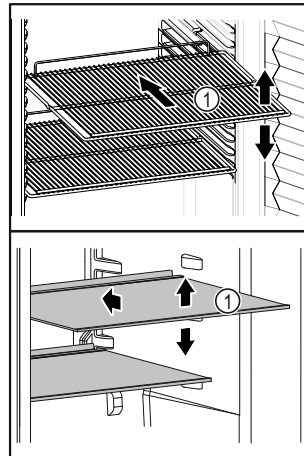

Fig. 5 Example illustration
- ❑ If storage surfaces Fig. 5 (1) are movable, adjust them according to height.